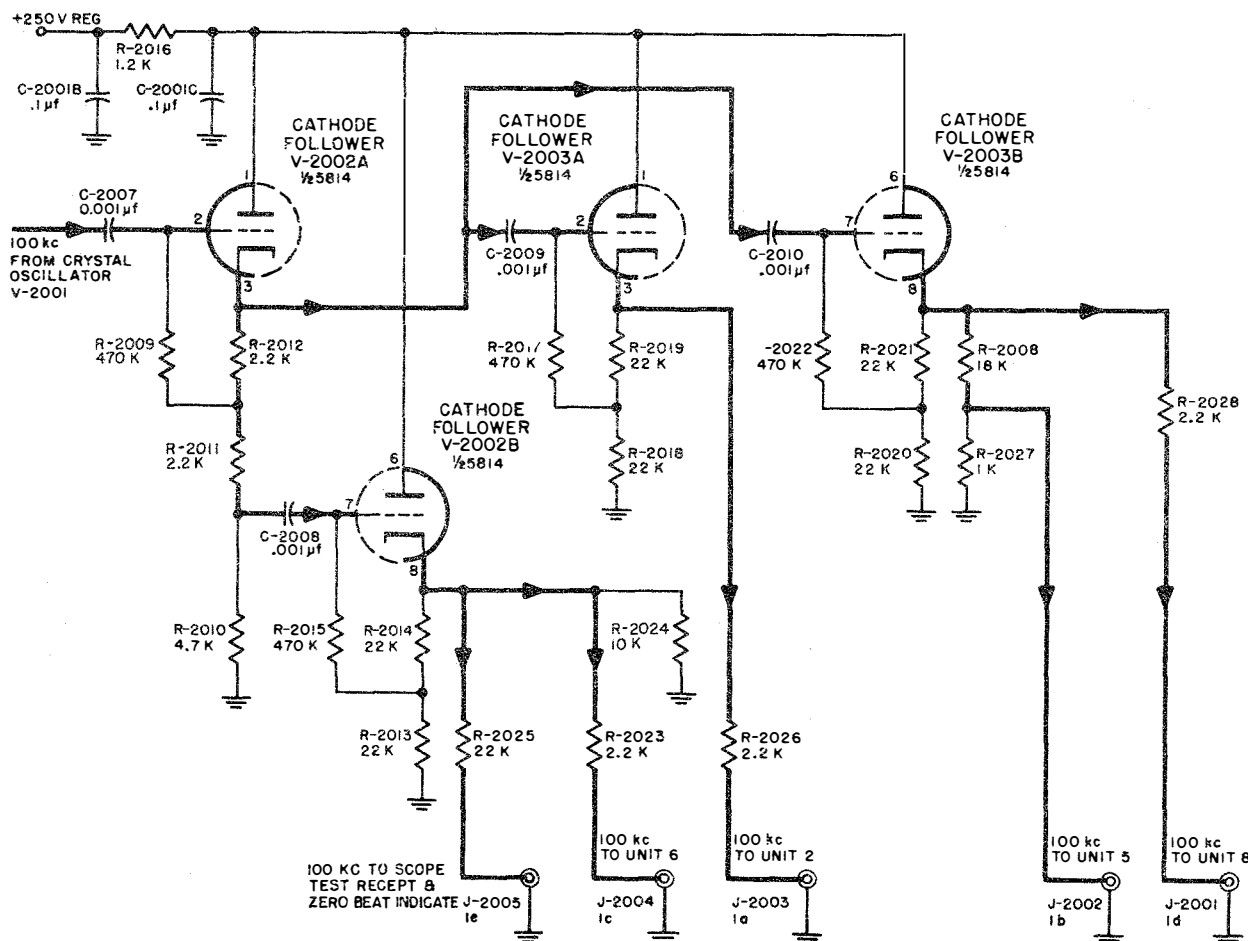

Figure 2-4. RFO Unit 1, Cathode Followers V-2002 and V-2003, Simplified Schematic
(2) CATHODE FOLLOWERS V-2002 and V-2003.—The crystal oscillator output (figure 2-4) is distributed to other subunits of the RFO through a system of cathode followers. This prevents loading of the